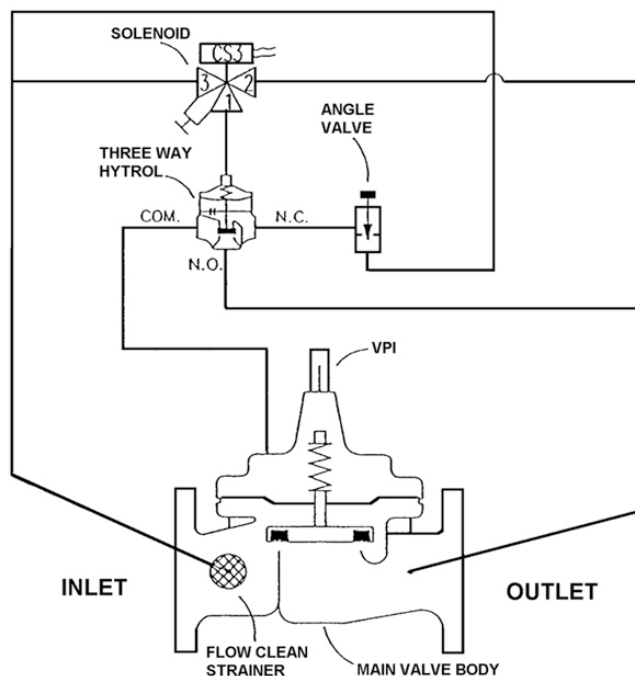

Figure 4-7. Flush valve, 136AF-5B. (By courtesy of Cla-Val Co.)
The 136AF-5B flush valve (FV) (fig. 4-7) is a 6-inch solenoid CV, rated at 1,200 gpm, and is located in a valve pit outside the pump house. The FV's primary purpose is to close the system loop; thus, redirecting the fuel for pantograph flushing. The following table shows the FV's solenoid operation. The solenoid is energized when the system is placed in the "pantograph flush" mode. When the solenoid energizes, the main valve closes; when the solenoid deenergizes, the main valve free floats open.